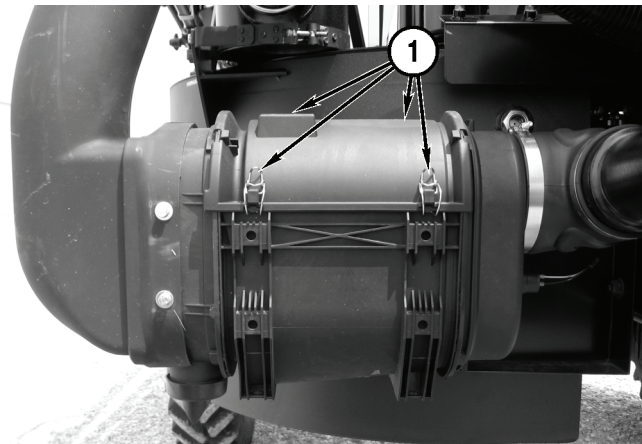

Figure 5-35
2. Release the four latches (**Figure 5-35, 1**) and remove the cover from the air cleaner assembly.